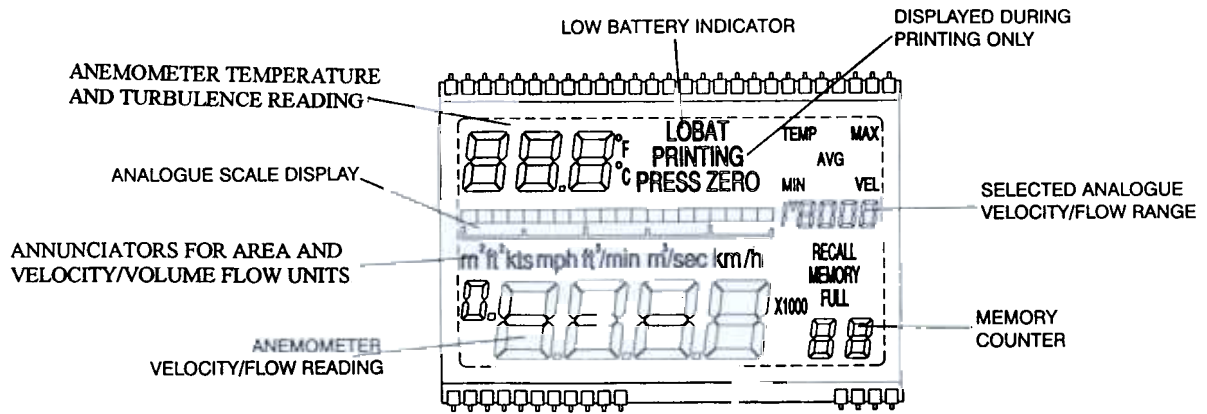

Fig 1 LCD Display
This is a custom Liquid Crystal Display (LCD) and FIG.1 shows the display's principle features.
Note: FIG.1 shows the display with all the segments illuminated, this is a condition which will not occur in normal use but only during the display test (see section 8.1).
The analogue scale line on the display (see FIG.1) will flash three times to show that this command has been accepted before the display illuminates. Subsequently, the analogue scale line will continue to pulse as a reminder that the 'auto off' facility has been disabled.
- (1) Power the instrument up (see section 5.1); the instrument will power up in the 'read' mode. The temperature will be displayed on the 3-digit display in the top left hand corner of the display area (see FIG.1).
- (2) The units of temperature measurement (°C/°F) are displayed on an annunciator adjacent to the displayed temperature reading. The units may be changed by sequentially pressing the
- (1) Power the instrument up (see section 5.1): the instrument will power up in the 'read' mode. The flow reading will be displayed on the main 4-digit display at the bottom of the display area (see Fig.1).
- (2) The units for velocity measurement are displayed on an annunciator above the displayed flow reading. Select the units required, either m/s, km/h, kts (knots), mph or ft/min by sequentially pressing the  key.
- (3) Select the required analogue scale display range (see FIG.1) by pressing the  key.